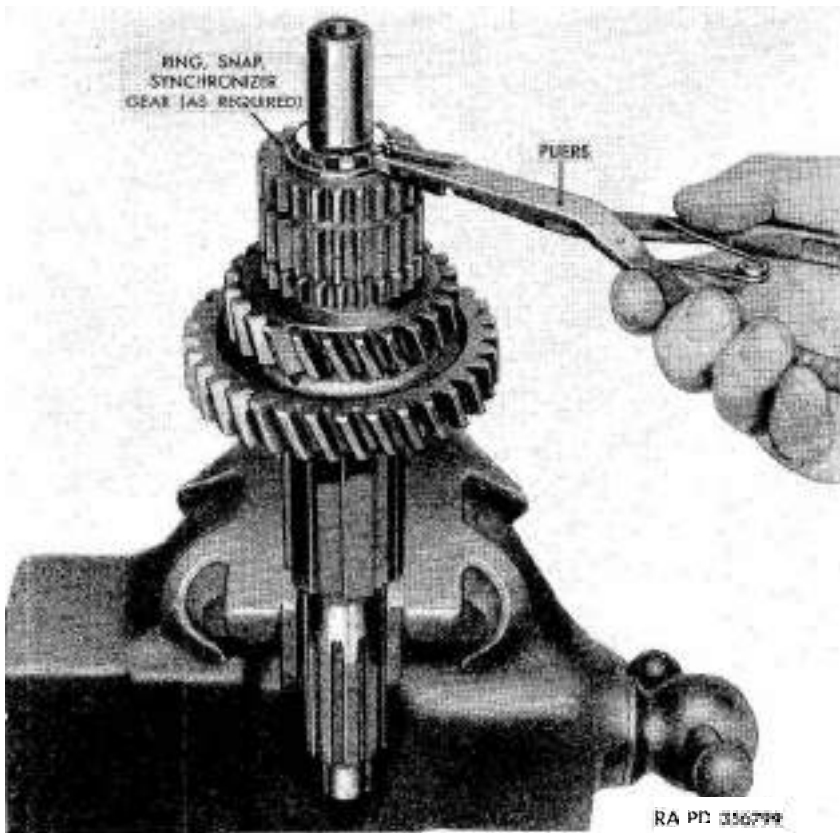

Figure 107. Removing synchronizer gear snap ring with snap ring removing pliers.
- (1) Remove main shaft pilot bearing spacer (BB) from forward end of shaft.
- (2) Remove first and second speed sliding gear (V) from main shaft, clamp main shaft assembly vertically between copper jaws of a vise, and remove synchronizer gear snap ring (M) with snap ring removing pliers (fig. 107).
c. *Remove Gears, Bearings, and Locating Washers From Main Shaft.* Remove synchronizer gear (N), third speed gear (P), third speed gear bushing-type bearing (Q), third speed gear locating washer (R), second speed gear (T), second speed gear rollers (S), and second speed gear locating washer (U) from main shaft (CC).
d. *Remove Main Shaft Oil Seal From Main Shaft Bearing Retainer.* Drive main shaft oil seal (LL) from main shaft bearing retainer (HH) with a punch and hammer.